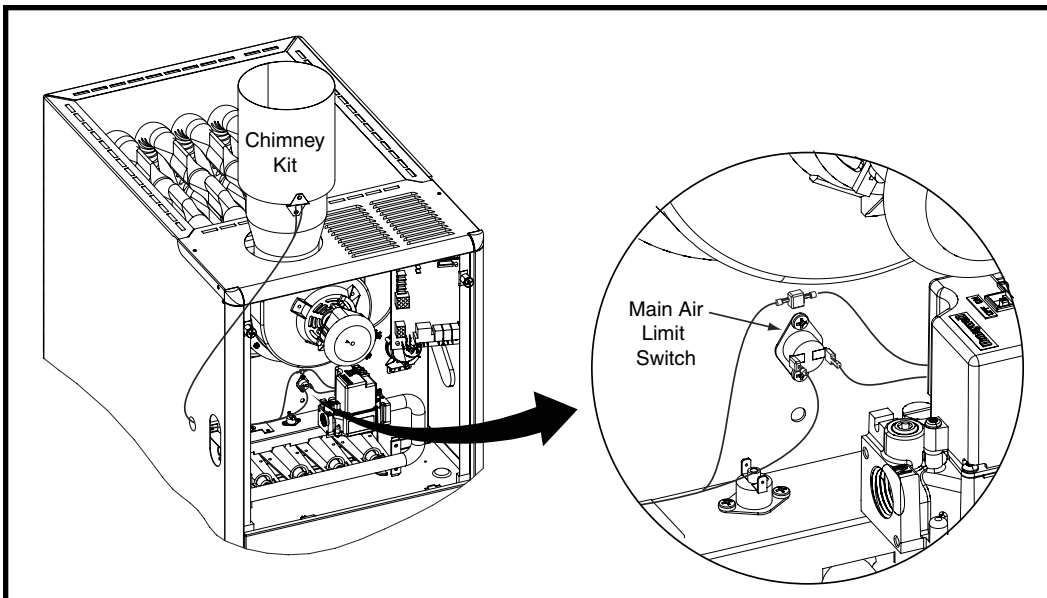

Figure 2. Chimney Kit Installation
6. Route the wire harness from the chimney kit through the low voltage hole, into the furnace cabinet. See Figure 2 (page 5).